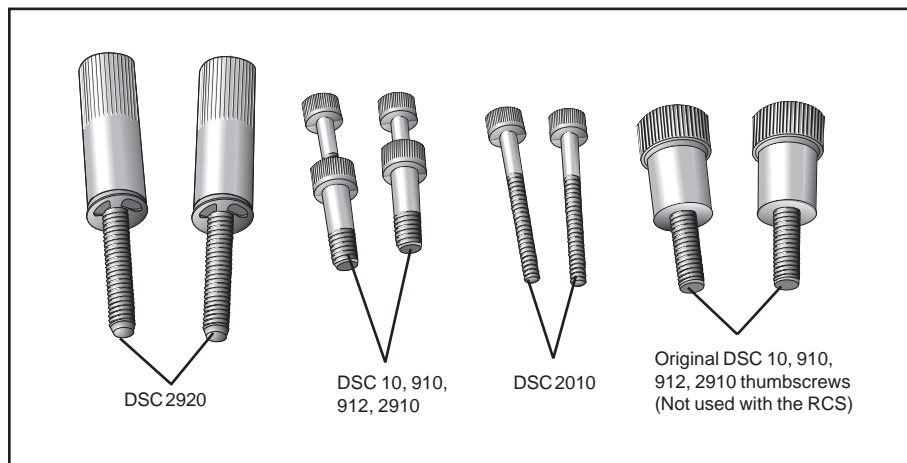

Figure RCS.5
5. Locate the screws (included in the RCS Accessory Kit) that are needed for your type of DSC instrument. Refer to Figure RCS.5 to decide which screws you will need.